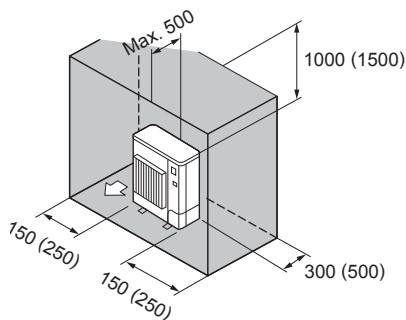

Fig. 1-10
- ⑥ Obstacles at rear, sides, and above only (Fig. 1-10)